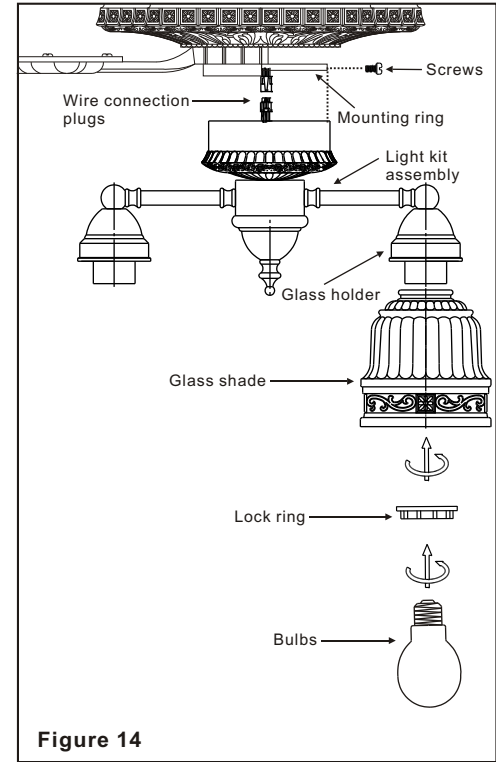

Figure 14
5. Carefully push all wires back into the switch housing, then install the light kit assembly onto the mounting ring with 4 screws provided. Be sure to tighten all screws. (Fig. 14)
6. Remove the lock ring from the socket by turning the lock ring counter-clockwise. Until it unlocks. Insert the glass into the glass holder and turn the lock ring clockwise to tighten the glass. Repeat for the remaining glass. (Fig. 14)